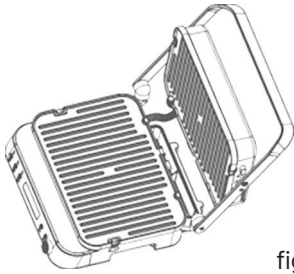

fig 1
2. Remove the grill plate by pressing the "Unlock" button and taking it out. (Fig.1)
When preheating finishes, use the handle to move the top cover to open position (fig 1), wearing the oven mitt, press the top cover to level with the handle (fig 2), then press the handle and top cover to flat position (fig 3);